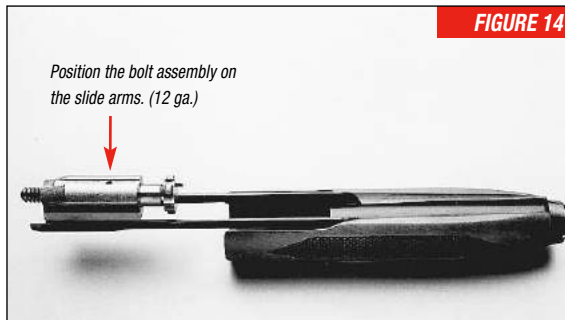

FIGURE 14
5. With the firing pin and breech bolt now assembled, engage the slide arm bridge into the matching cuts on the slide arms (Figure 14).